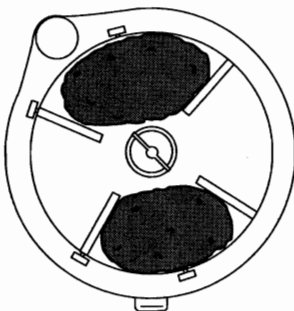

Fig. 8
- When making potato chips or French fries, these two compartments should be used (Fig. 8). They are correctly positioned in relation to the grid. NOTE: Fill both compartments to the same level.